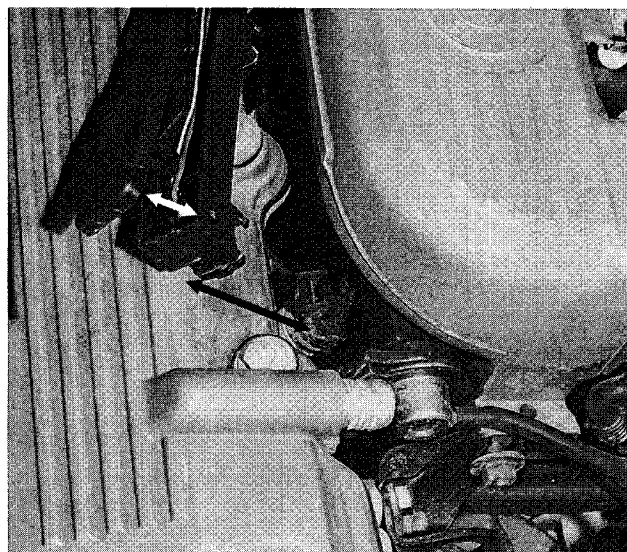

Fig. 13. For electrical tests, 4-cylinder fuel injector harness duct can be accessed between intake manifold and cylinder head cover.
- On 4-cylinder cars pry up the injector wiring duct and then pry off the cover. See Fig. 13.